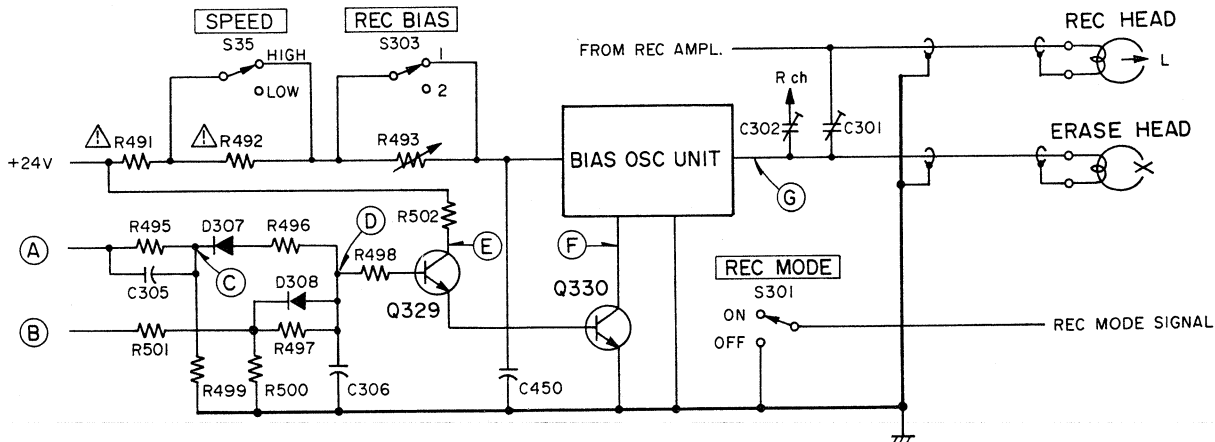

Fig. 8-9 Bias oscillator and associated circuitry
See Fig. 8-9 and 8-10. Q329 and Q330 are switching transistors which turn the bias oscillator on and off. When the REC MODE switch is turned ON and the deck is set in the REC/PLAY or REC/PLUSE mode, REC SIG of +24V comes to (B) from the control unit. The signal charges C306 via R501 and R497. As the voltage across C306 becomes about 1V, Q329 and Q330 turn on and the bias oscillator begins to oscillate. It takes about 60 msec for the bias oscillator to rise completely. The bias waveform rises rather slowly. By this slow-start feature of the bias oscillator, bias is gradually applied after tape travel becomes steady in the REC/PLAY mode, preventing any click noise from being recorded on the tape.